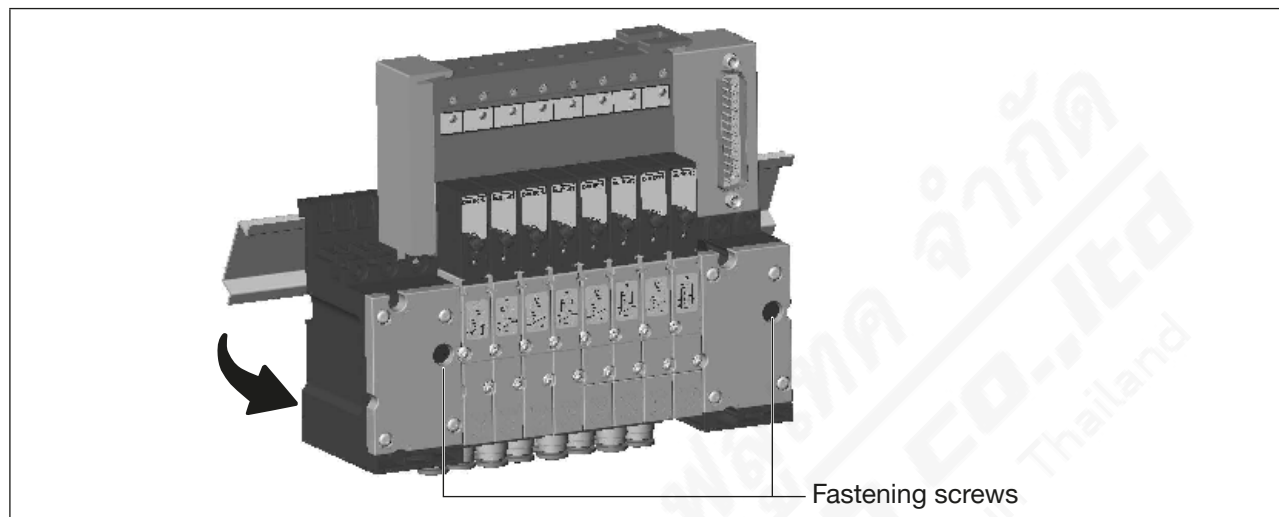

Fig. 37: Remove the valve block from the standard rail (displayed as an example with valve island Type 8640)
- Check whether all fastening screws of the valve block (see Fig. 37) are at their stops when turning anticlockwise.